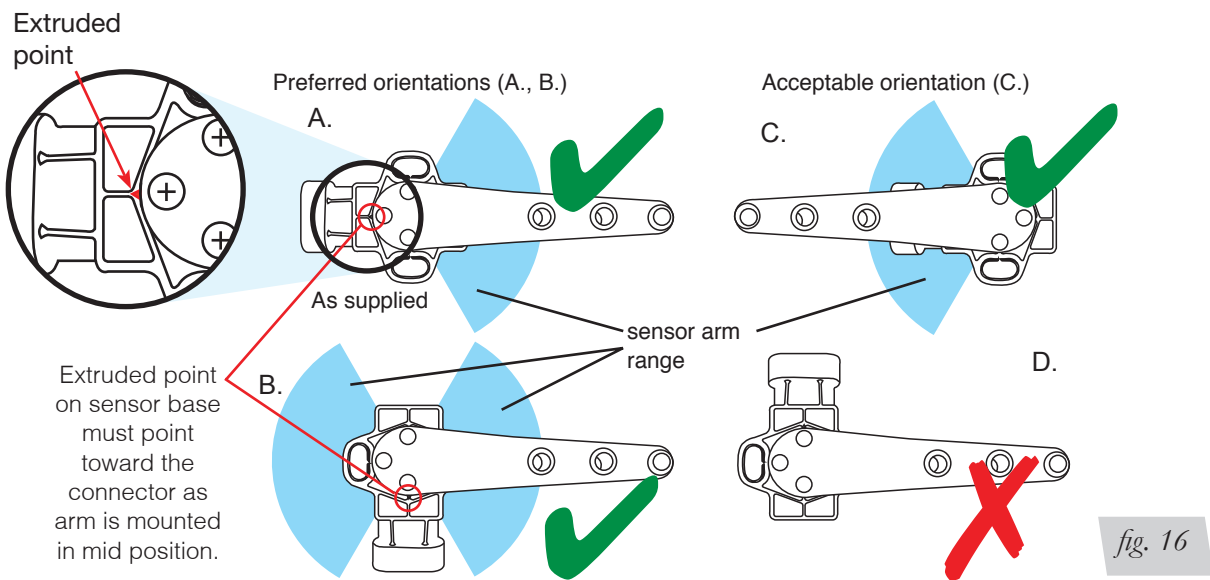

fig. 16
2. The sensor can be mounted in any direction and will still work as long as the sensor arm base's extruded point is pointing toward the connector when the sensor arm is at its mid-position. The height sensor assembly is supplied in position A. Remove the arm to reposition it to B or C but keep the extruded point in the direction of the connector. The orientation of the connector must be either facing down or parallel to the ground to avoid water accumulating on the connector and making its way into the sensor. Also, mount the sensor where the arm will be mounted opposite or 90 degrees from the connector wiring if possible. If not possible, ensure the wiring harness is secured away from arm travel so it will not get caught up when the arm cycles (fig. 16).